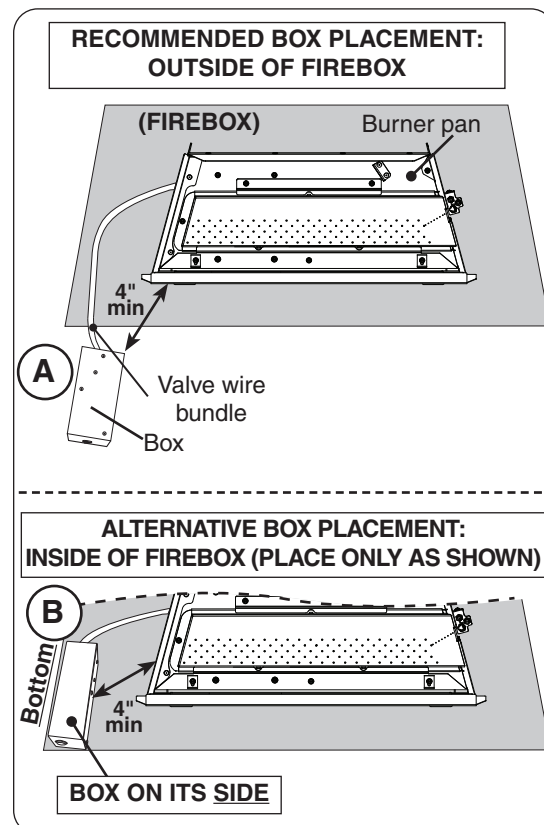

Fig. 14-3 Receiver/switch box placement
7. It is recommended the receiver/switch box be placed outside of the firebox (left or right side), and a minimum of 4" from the burner/flame. See Fig. 14-3, A.
Alternatively, the box can be placed inside of the firebox, but must be oriented as shown in Fig. 14-3, B. Set the box on its side and place the bottom of the box toward the left/right firebox wall (box must be a minimum of 4" from the burner/flame). DO NOT place at the rear of the firebox.